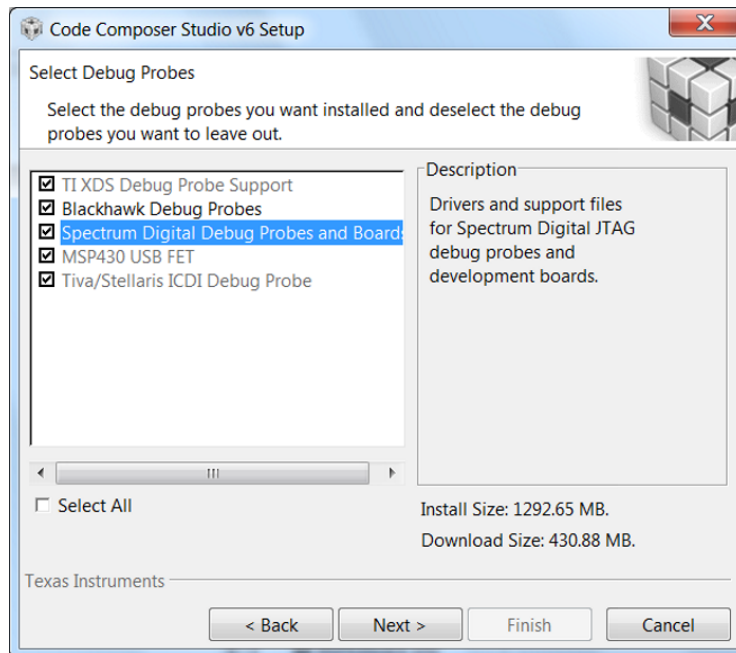

Figure 11. Components Available for Installation
Step 6. Review the installation size and click the *finish* button to begin installation of the CCS software (see Figure 11).